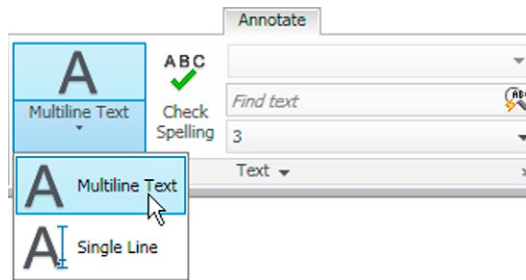

Fig. 6.22 Selecting **Multiline Text...** from the **Annotate/Text** panel
2. Either *left-click* on the **Multiline Text** tool icon in the **Annotate/Text** panel (Fig. 6.22) or *enter t* at the command line: